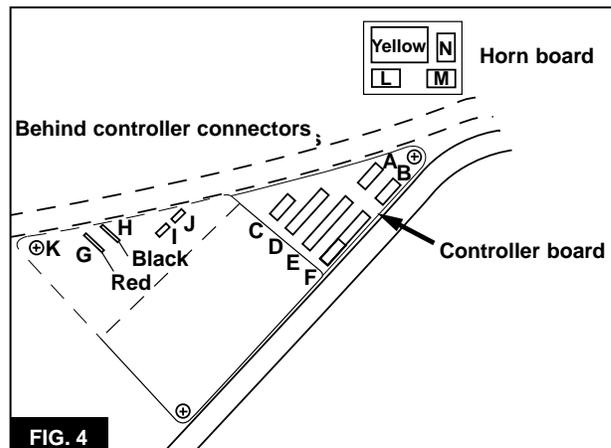

FIG. 4
4. Disconnect the throttle control connector (F, **Figure 4**) from the controller board. Note how the throttle control wire is routed through the frame. The new wire will have to be rerouted along the same path.
4. Feed the cable around the head tube, through the cable inlet in the left side cover, and plug the connector into position (F, **Figure 4**) on the controller panel.
4. Disconnect the accessory control connector (E, **Figure 4**) from the controller board. Note how the accessory control wire is routed through the frame. The new wire will have to be rerouted along the same path.